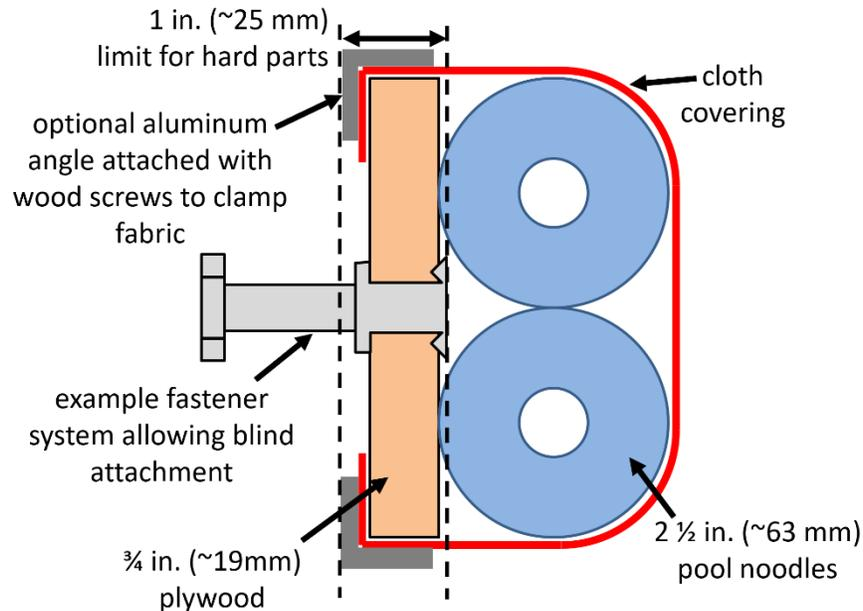

Figure 9-7):
R901 R408 *BUMPER construction. BUMPERS must be constructed as follows (see Figure 9-7 is updated to reflect a more common BUMPER fastening system).
Previous Figure 9-7 with less common fastening system highlighted
- C. use a stacked pair of approximately $2\frac{1}{2}$ in. (nominal, $\sim 63\text{ mm}$) round, petal, or hex “pool noodles” (solid or hollow) as the BUMPER cushion material (see Figure 9-7). All pool noodles used in a BUMPER set (e.g. red set of BUMPERS) may not be modified (with the exception of cutting to length or cutting to facilitate mating pool noodles at the corners as required by R409) or deformed and must be the same diameter, cross section, and density (e.g. all round hollow or all hex solid). Per R409 cushion material may extend up to $2\frac{1}{2}$ in. ($\sim 63\text{ mm}$) beyond the end of the plywood in order to fill a corner (see Figure 9-8). To assist in applying the fabric covering, soft fasteners may be used to attach the pool noodles to the wood backing, so long as the cross section in Figure 9-7 is not significantly altered (e.g. tape compressing the pool noodles).